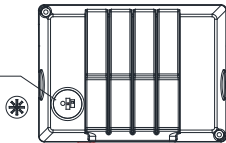

figure 13
1. Open the metal plug and plastic plug counterclockwise with a screw driver (figure 12) , then slide the switch up and down to adjust the power controller,CCT controller or photocell controller in your demand. (figure 13,14,16)